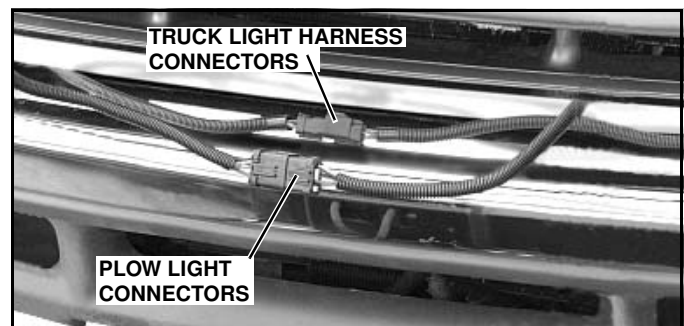

Figure 1-29
1. Unplug EIS® light harness connectors on truck, and disconnect plow light connectors, which had been plugged together for corrosion protection during storage. (See Figure 1-29).